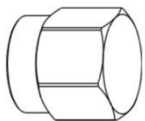

Figure 1
4. Temporarily remove the 50 Ohm terminator. Remove the star washer and nut from the bulkhead. Insert the antenna cable bulkhead through the 1/4" hole. **Be careful not to touch the center pin to prevent static damage to the radio.** Install the star washer and nut provided. Hand tighten the nut plus an additional 1/4 turn. Attach the 50 Ohm terminator shown in Figure 1. This component will protect the RF circuitry from static damage.